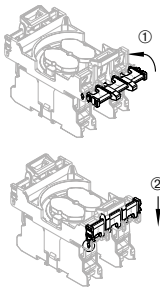

Fig. 5
4. Closing and pressing down the contact fitting (see Fig. 5): the contact fittings to the left and the right are folded up 90° and then pressed down until they engage. In this way, the contact elements are additionally mechanically secured to the contact carrier.